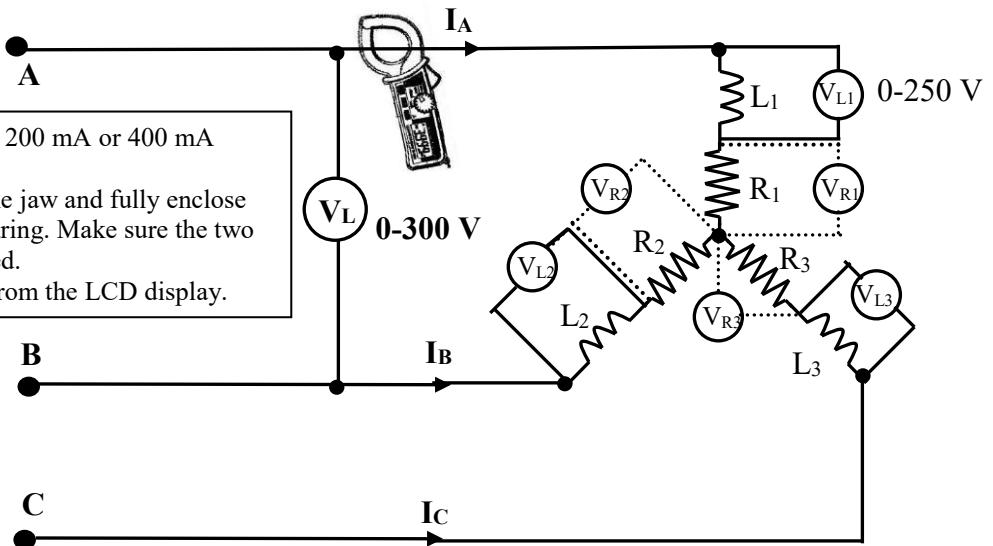

Figure 2
2. Connect up the circuit as shown in Figure 2 to measure the voltage across the inductor.
8. Reconnect each of the voltmeters to measure the voltage across the resistor as shown in the dotted lines in Figure 2. (**Note: connect all the three voltmeters to measure the voltages across all the three resistors simultaneously**).